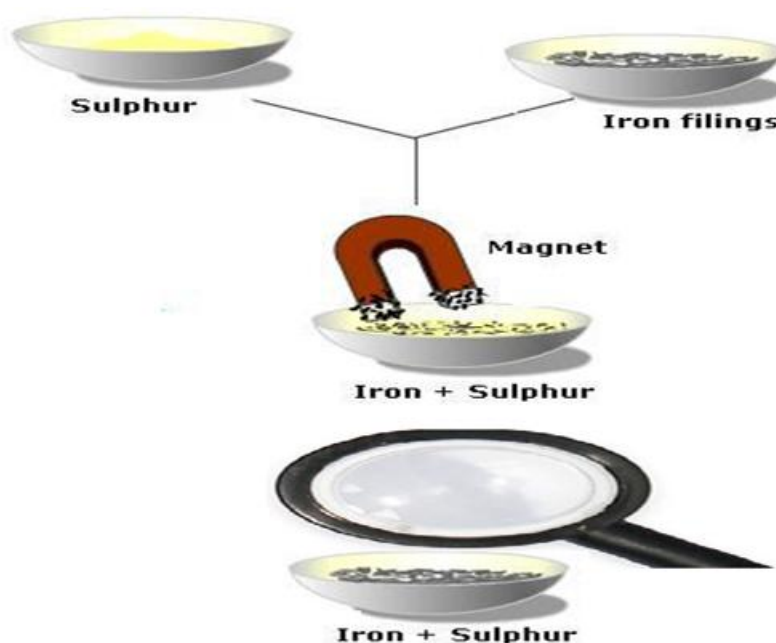

Figure 3: separating iron from a mixture of iron and sulphur
1. Mix 10g of iron filings with 6 g of powdered sulphur. Examine the mixture using a magnifying glass as shown in the figure 3
2. Place half of this mixture on a sheet of paper. Bring one end of a magnet close to the mixture as shown in Figure 3